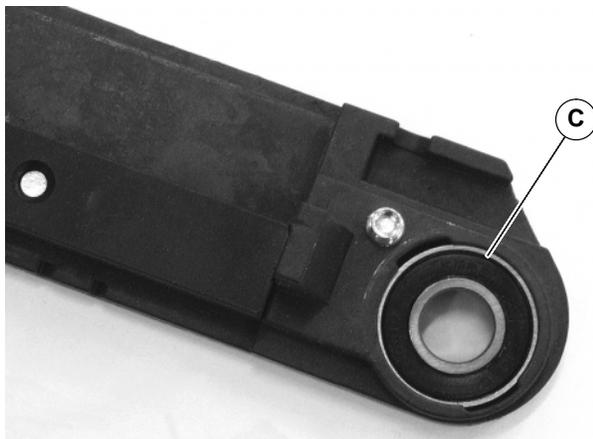

Figure 7
9. Insert new bearing (C of Figure 7) into head plate slot and twist bearing to fit into bearing enclosure.
10. Insert new bearing (C of Figure 7) into head plate slot and twist bearing to fit into bearing enclosure.